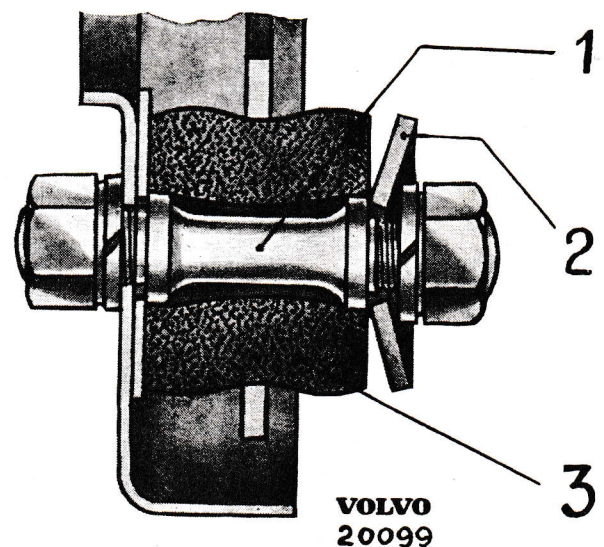

Fig. 18. Bearing case suspension, early production.
Brace collar bearing case in bracket. Renew rubber bushings if damaged (3, fig. 18). Washers (2) at rubber bushings should be placed with their convex side facing rubber.